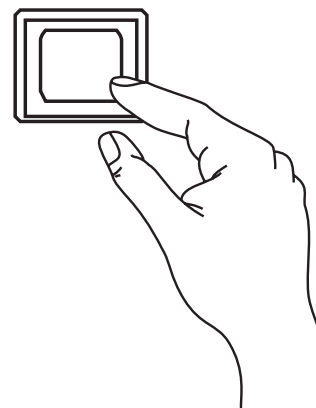

Figure 102. Program Exit Button
4. Release the Hour Check button and press the **Program/Exit button** (Figure 102) on the ECU controller to return the controller to the main screen.